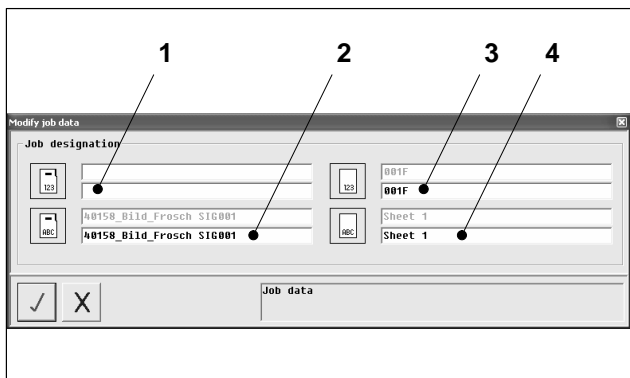

Fig. 8 Modifying job data
You can change administrative job data (Fig. 8) of jobs in the job list. The file(s) for the terminals are then recalculated.
2. Click on the attribute (Fig. 8/1...4) you wish to change. Make your changes.